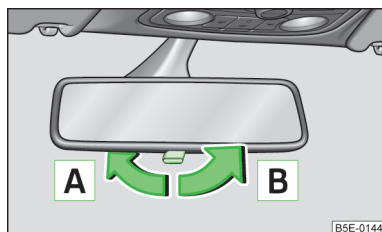

Fig. 43
- Adjust the lever towards the windscreen at the lower edge of the mirror (the mirror dims) » Fig. 43.